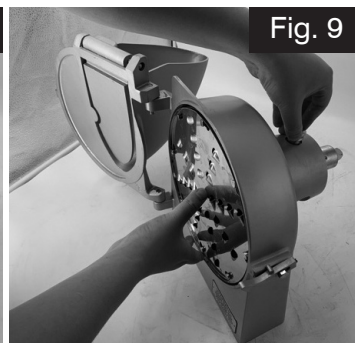

Fig. 9
2. Lift the lock pin and seat the plate unit with a gentle twist. (Fig. 9)